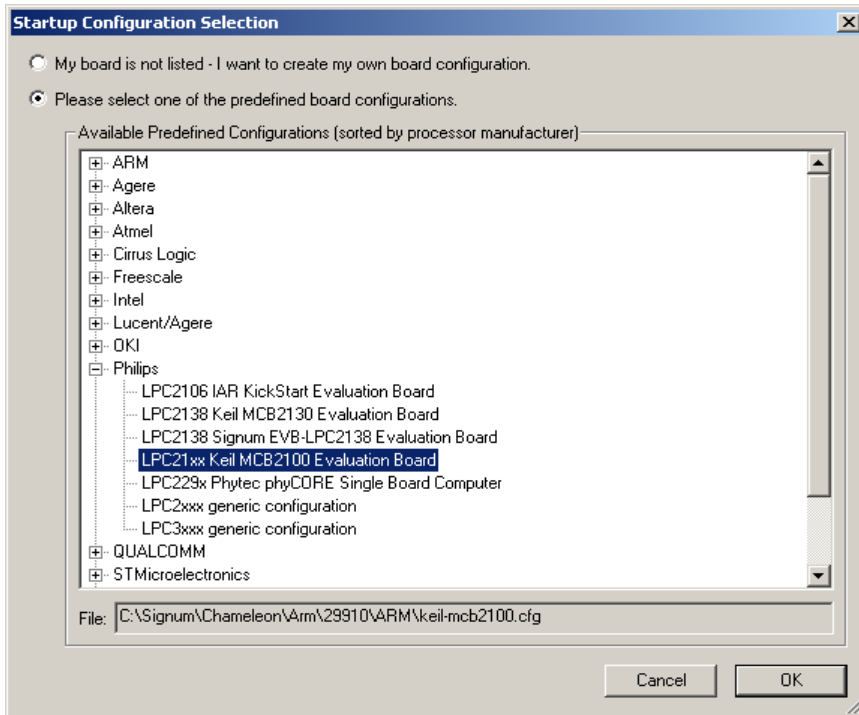

FIGURE 40
2. In the Startup Configuration Selection window, under Philips, select the LPC21xx Keil MCB2100 Evaluation Board and click **OK** (Figure 40).